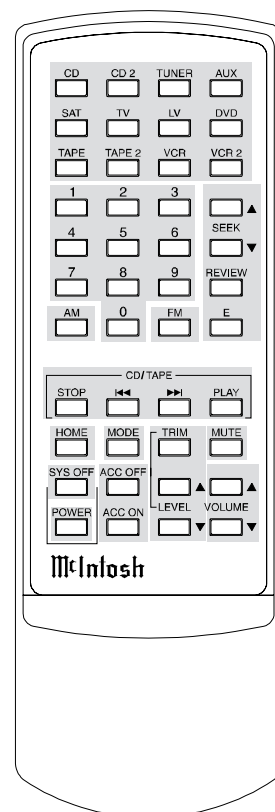

Figure 61
2. Select the desired Listening source by pressing an INPUT pushbutton on a keypad or Remote Control. Refer to Figure 61 & 62.